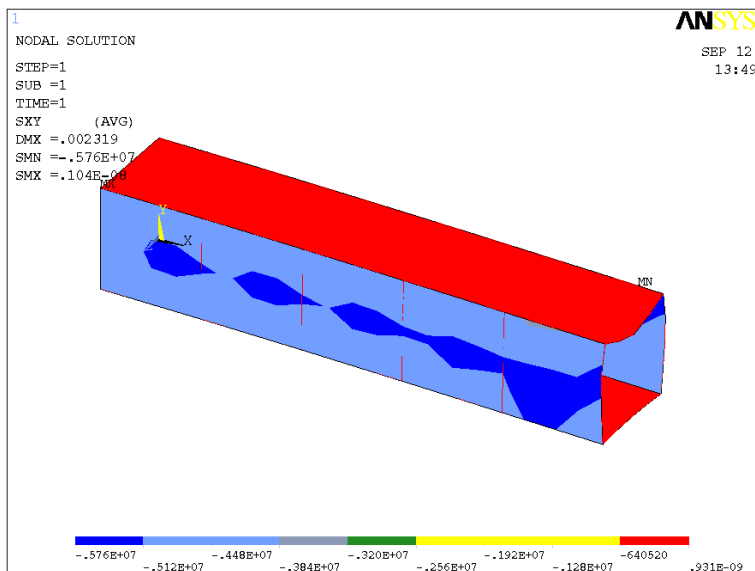

Figure 10.3
3. Choose 'Stress from the left box and 'XY-shear SXY' from the right box, then click 'OK'. The resulting plot of shear stresses is shown in Figure 10.3; the magnitude of the stress in the side webs is close to 5 MPa, and the XY shear stress in the top and bottom webs is small. (For a more accurate estimate we could list the results.) Plots of the other two shear stresses also yield results consistent with theory, although there are XZ shear stress concentrations around the ends of the vertical booms.